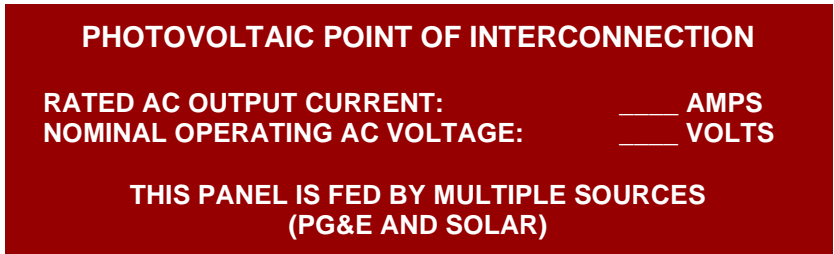

Figure 6.
- ❑ **Point of Interconnection.** All interactive system(s) points of interconnection with other sources shall be marked at an accessible location at the disconnecting means as a power source and with the rated ac output current and the nominal operating ac voltage [CEC 690.54]. See *Figure 6* for an example.